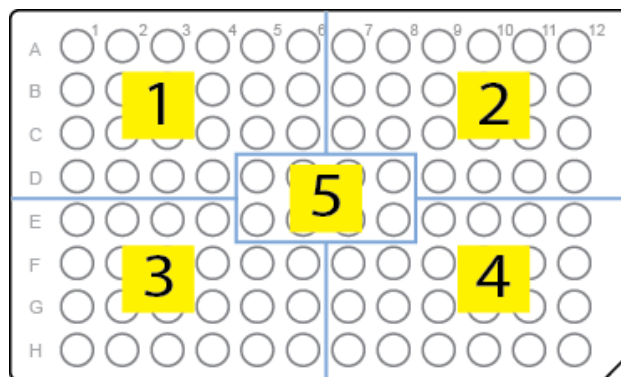

Figure 30 Plate vortexing
- **Plates:** Vortex for 1 to 3 seconds in all corners and in center (Figure 30), repeat once for high volume reagents: PCR (100 µL), hybridization-ready samples (260 µL)